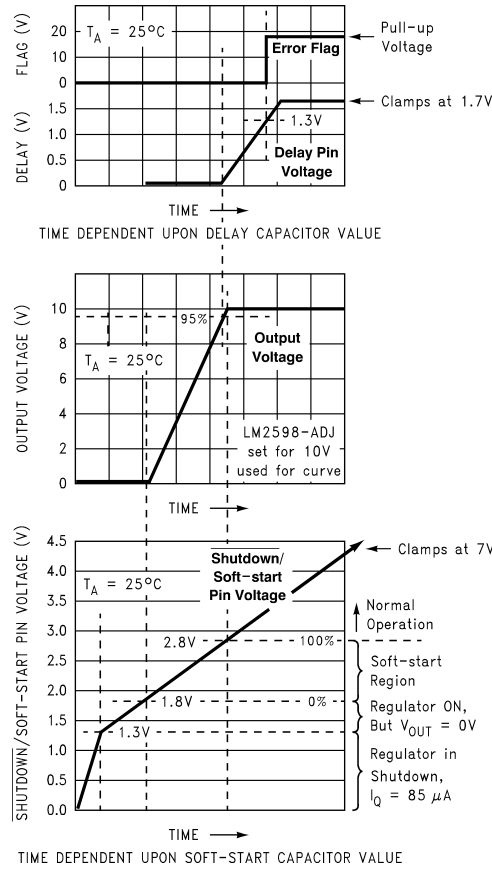
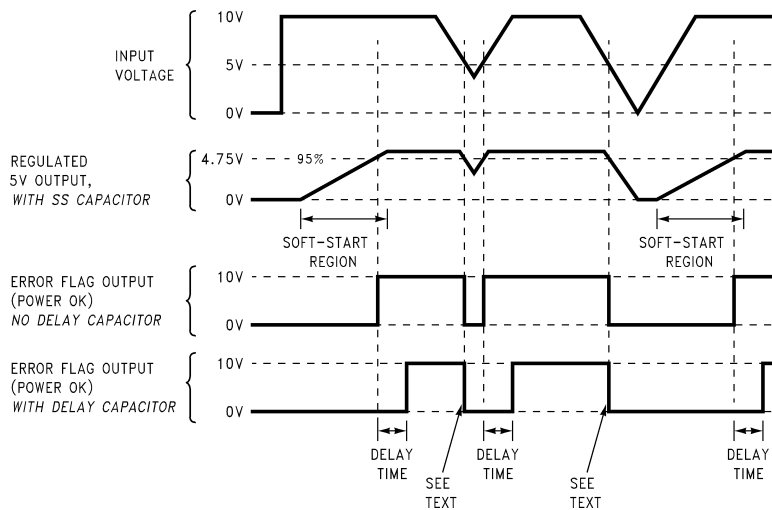

Figure 30. Soft-start, Delay, Error, Output
Figure 31. Timing Diagram for 5V Output
C_{SS} — A capacitor on this pin provides the regulator with a Soft-start feature (slow start-up). When the DC input voltage is first applied to the regulator, or when the Shutdown /Soft-start pin is allowed to go high, a constant current (approximately 5 μA) begins charging this capacitor. As the capacitor voltage rises, the regulator goes through four operating regions (See the bottom curve in Figure 30).
- Soft-start Region.** When the \overline{SD} /SS pin voltage is between 1.8V and 2.8V (@ 25°C), the regulator is in a Soft-start condition. The switch (Pin 1) duty cycle initially starts out very low, with narrow pulses and gradually get wider as the capacitor \overline{SD} /SS pin ramps up towards 2.8V. As the duty cycle increases, the output voltage also increases at a controlled ramp up. See the center curve in Figure 30. The input supply current requirement also starts out at a low level for the narrow pulses and ramp up in a controlled manner. This is a very useful feature in some switcher topologies that require large startup currents (such as the inverting configuration) which can load down the input power supply.
Note: The lower curve shown in Figure 30 shows the Soft-start region from 0% to 100%. This is not the duty cycle percentage, but the output voltage percentage. Also, the Soft-start voltage range has a negative temperature coefficient associated with it. See the Soft-start curve in the Electrical Characteristics section.
C_{DELAY} — Provides delay for the error flag output. See the upper curve in Figure 30, and also refer to timing diagrams in Figure 31. A capacitor on this pin provides a time delay between the time the regulated output voltage (when it is increasing in value) reaches 95% of the nominal output voltage, and the time the error flag output goes high. A 3 μ A constant current from the delay pin charges the delay capacitor resulting in a voltage ramp. When this voltage reaches a threshold of approximately 1.3V, the open collector error flag output (or power OK) goes high. This signal can be used to indicate that the regulated output has reached the correct voltage and has stabilized.